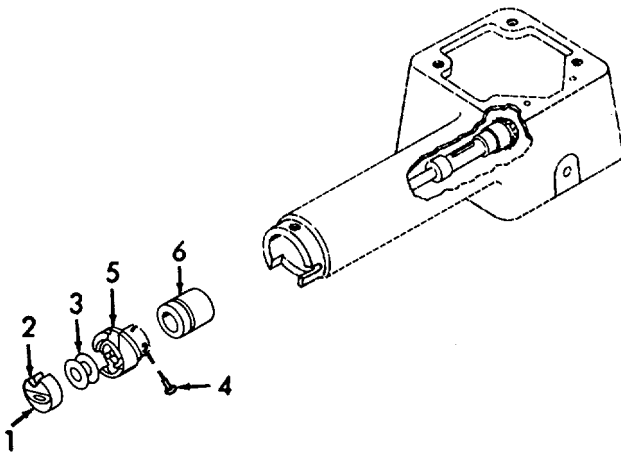

Figure 6-96. Bobbin and Rotary Sewing Hook Assemblies, Removal.
- (3) Refer to Figure 6-96. Pull on bobbin case latch (1) and pull bobbin case (2) and bobbin (3) to remove from rotary-sewing hook (5).
- (4) Loosen the three setscrews (4) and remove rotary-sewing hook (5) from hook shaft (6).